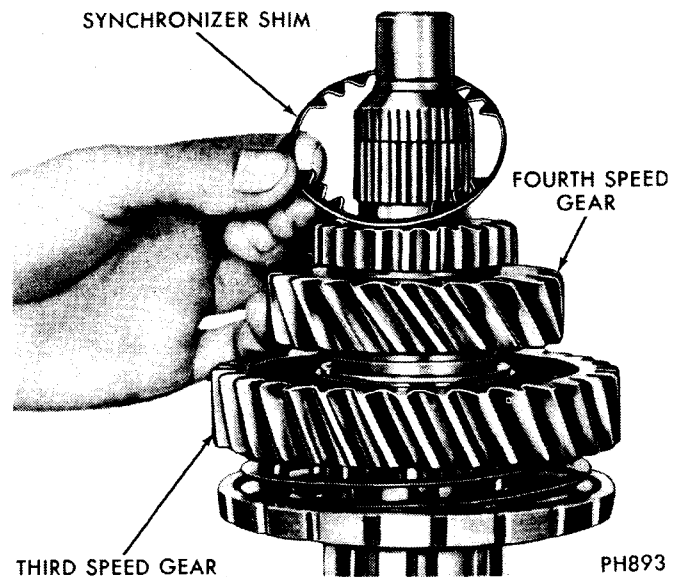

Fig. 13—Typical Shim Placement for End Play Adjustment at Front Synchronizer
(1) When checking the end play float of (.050-.070) at front synchronizer (fourth-fifth speed), which should be performed just before transmission cover assembly is installed, follow essentially the same procedure as for initial front synchronizer end-play check except that the feeler gauges are placed between the main drive pinion and the outer stop ring. **Correct readings can only be obtained after all main shaft components are properly assembled and tightened to specifications.**
(2) If end-play float does not check within limits (.050 to .070), shims should be removed or added between fourth speed gear and outer stop ring of synchronizer assembly (Fig. 13).
(3) Reassemble with corrective shims and recheck.